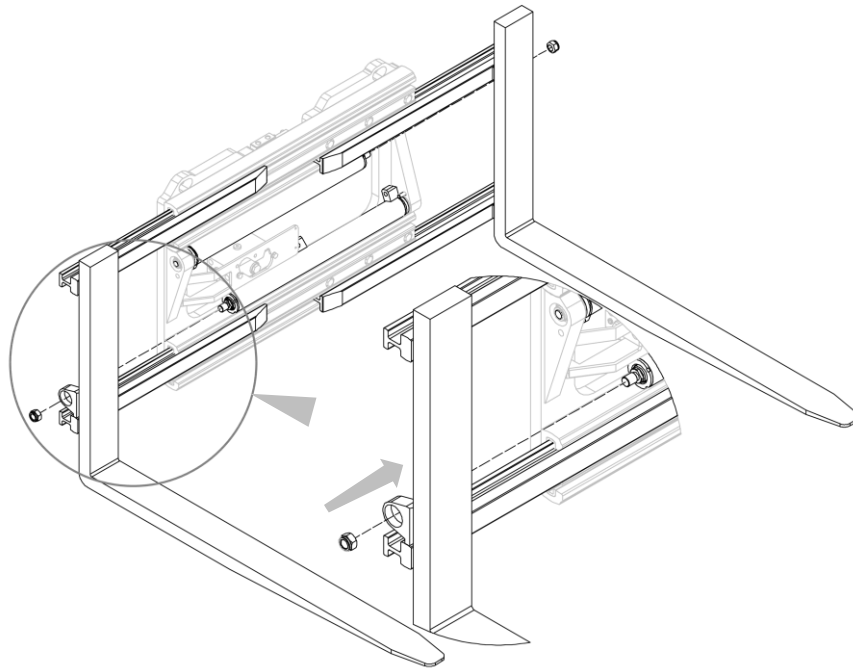
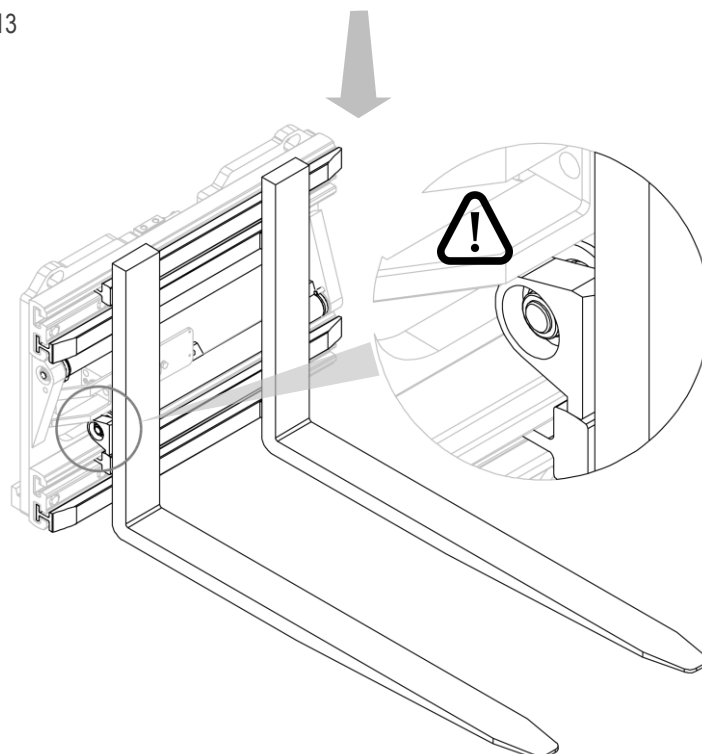

Figure 13
Figure 14
4. Insert the fork assembly + forks into their housings and secure them to the cylinders using the nuts (see *Figure 13* and *Figure 14*).